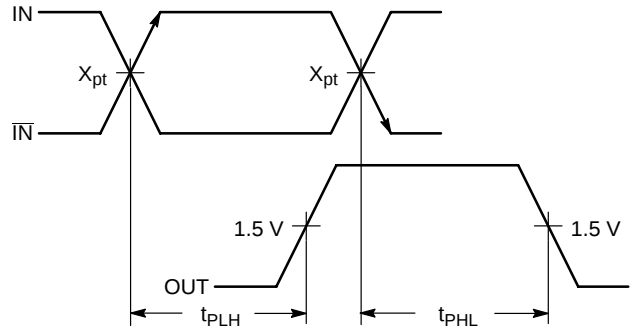

Figure 25. TTL Output Propagation Delay
**ECL Inputs and Non-ECL Outputs** – Refer to the device data sheet as several methods are used to measure the output propagation delays. One method specifies the output propagation delays from an ECL input crosspoint to a non-ECL fixed output voltage. For example, the output propagation delays for the MC100ELT21 PECL to TTL translator are specified between the ECL input crosspoint and a TTL output fixed voltage equal to 1.5 V as shown in Figure 25.